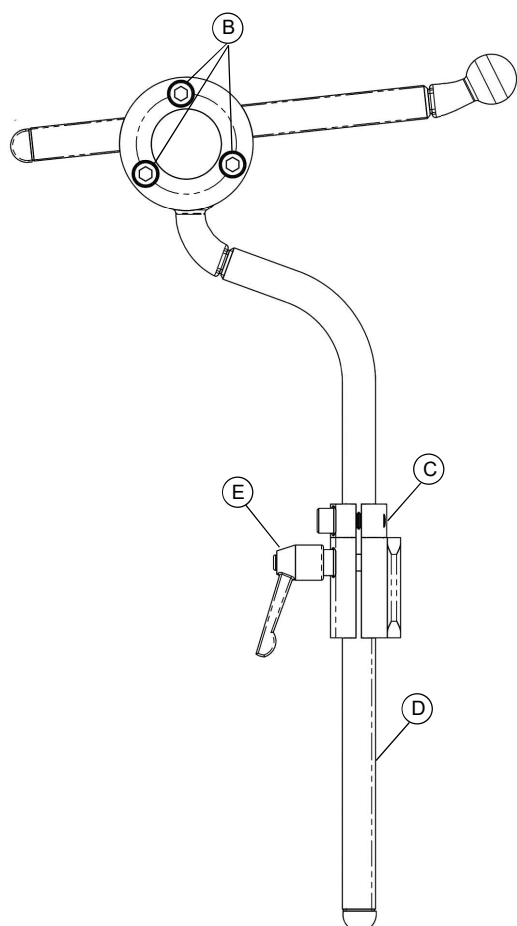
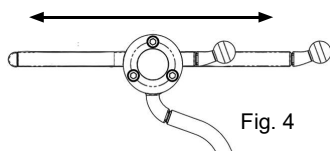
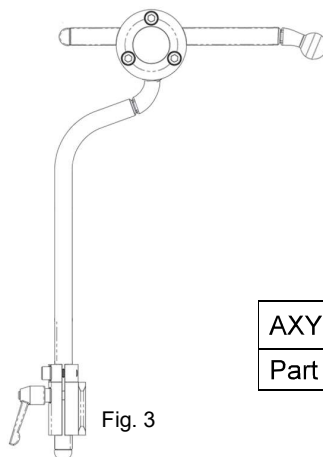

Fig. 1
Fig. 4
Fig. 3
1. Assemble as shown in Fig. 1.
1. Vertical - Loosen the lever knob (Fig. 1, E) and adjust to the proper height and then lower the stop collar (Fig. 1, C). Vertical rod may be rotated for additional angle adjustment of pad/base plate assembly.
2. Depth and Angle Adjustment - Loosen 3 adjustment screws (Fig. 1, B) for depth and angle adjustment (Fig. 4&5). Rotate horizontal rod 180° for increased angle adjustment (Fig. 3). Reverse vertical rod 180° for increased adjustment (Fig. 3).